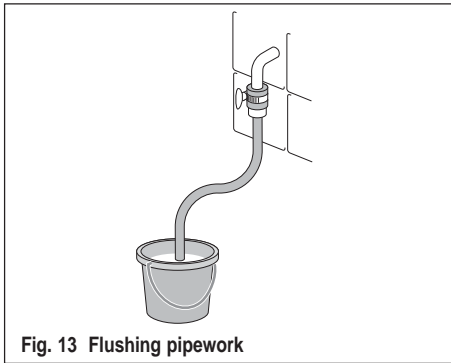

Fig. 13 Flushing pipework
5.6.7 It is essential to flush the system before the shower is connected in order to clear any debris, bits of solder and swarf which could enter and damage components within the shower, see fig. 13.